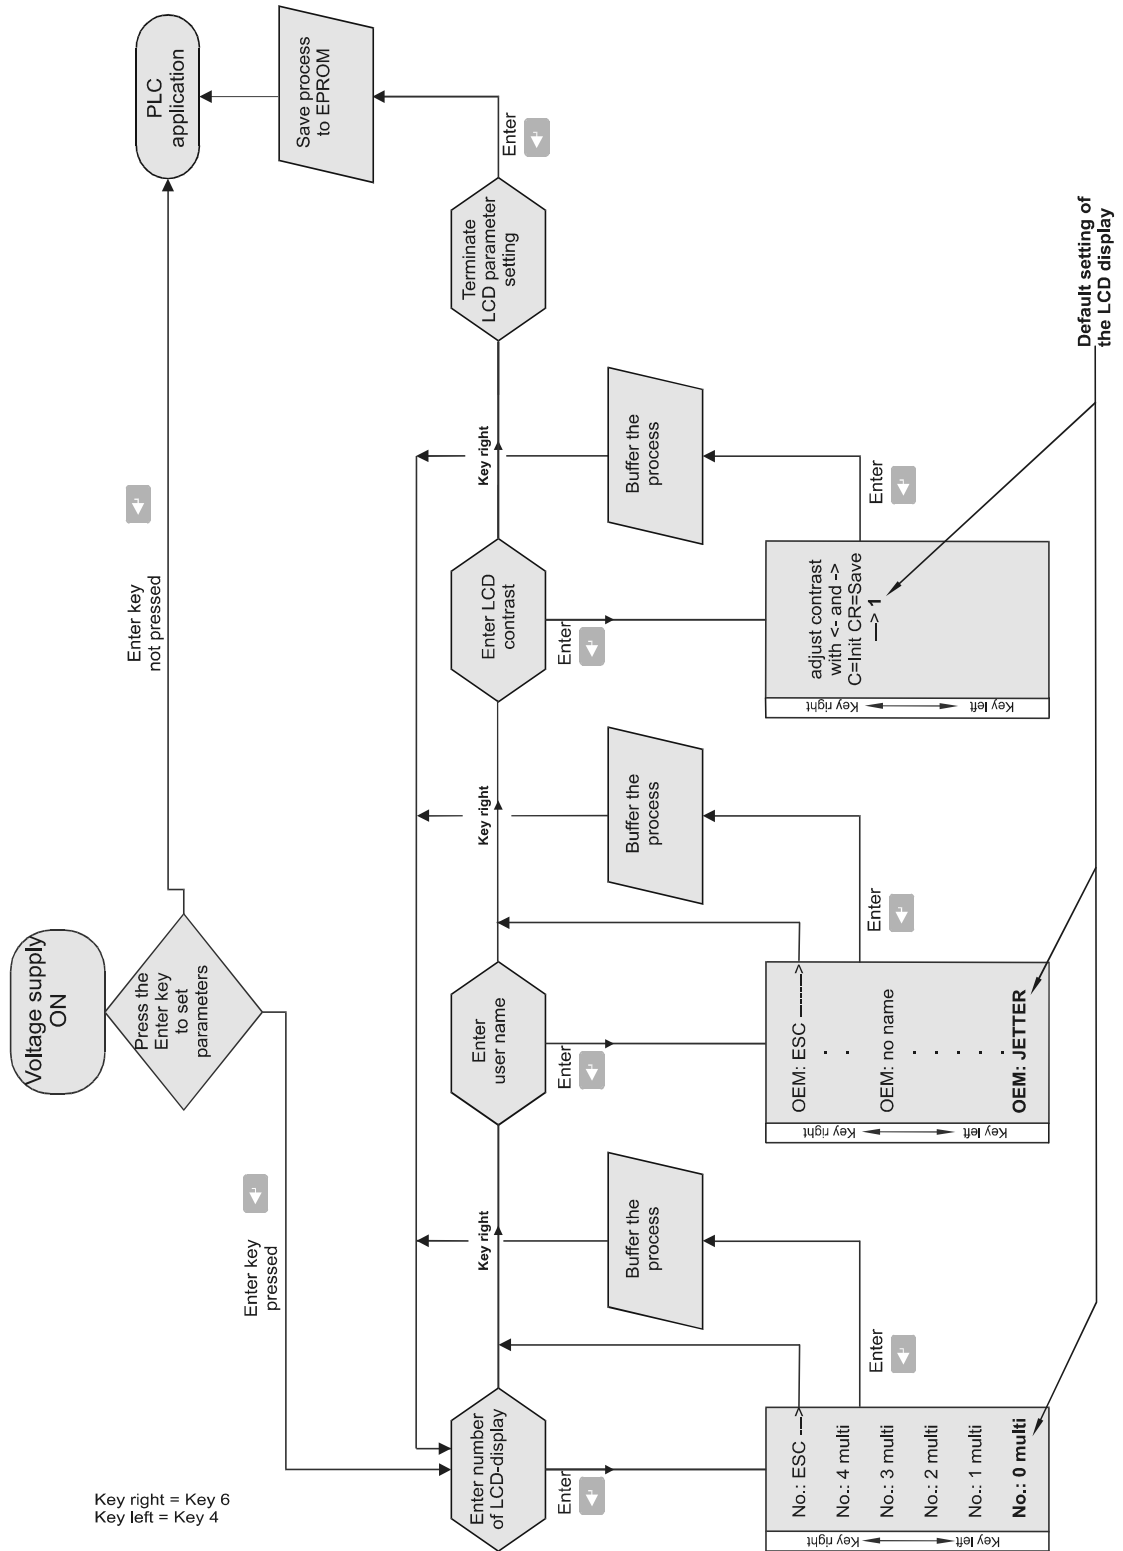

Fig. 3: Flow Chart of LCD Parameterizing
- The parameters of the LCD 52 user interface are to be entered as shown in the flow chart on Fig. 3, page 15.